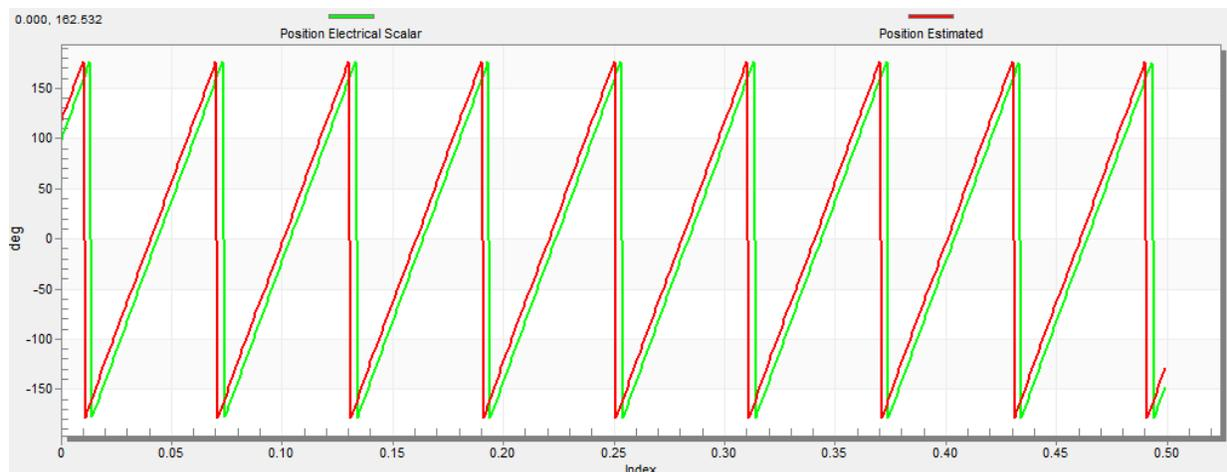

Figure 39. Generated and estimated positions
- Select the “Position” recorder to check the observer functionality. The difference between the “Position Electrical Scalar” and the “Position Estimated” should be minimal (see Figure 39) for the Back-EMF position and speed observer to work properly. The position difference depends on the motor load. The higher the load, the bigger the difference between the positions due to the load angle.